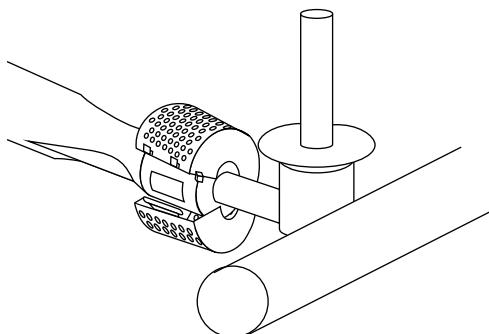

Figure 11
d) Unlatch the Spider Stopper Guards and remove. Figure 11.